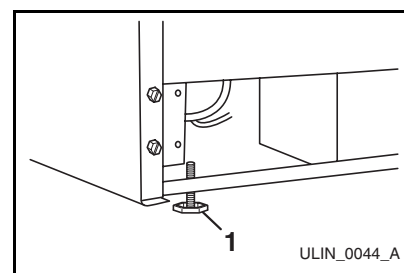

Figure 12
2. If the unit is not level, adjust the feet on the corners of the unit as necessary (**Figure 12**).